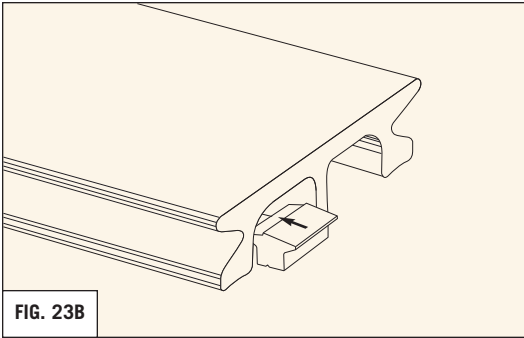

FIG. 23B
- Install perpendicular decking next. Toe screw each board in the middle with a single screw. To achieve the smallest possible gaps with the breaker board, the center leg on the ends of the perpendicular deck boards can be removed with a handsaw and chisel to slide over the Wing-clip. Remove a maximum of 1" of the center leg from the end of the deck board. (REFER TO FIG. 22 & 23A). As an alternative, the Wing-clip can be trimmed down to fit between the foot and the center leg of the board. (REFER TO FIG. 23B)